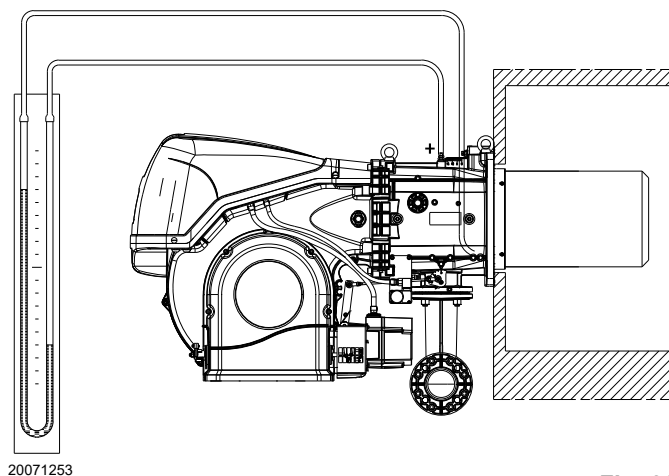

Fig. 28
- Fit a U-type pressure gauge or a differential pressure gauge (Fig. 28), with socket (+) on the gas pressure of the pipe coupling and (-) in the combustion chamber.
The arrival of gas at the pipe coupling is indicated by the U-type pressure gauge (Fig. 28).
A rough indication can be obtained from Tab. J on page 25, just read the gas pressure on the "U" pressure gauge, see Fig. 28 on page 27, and follow the indications.